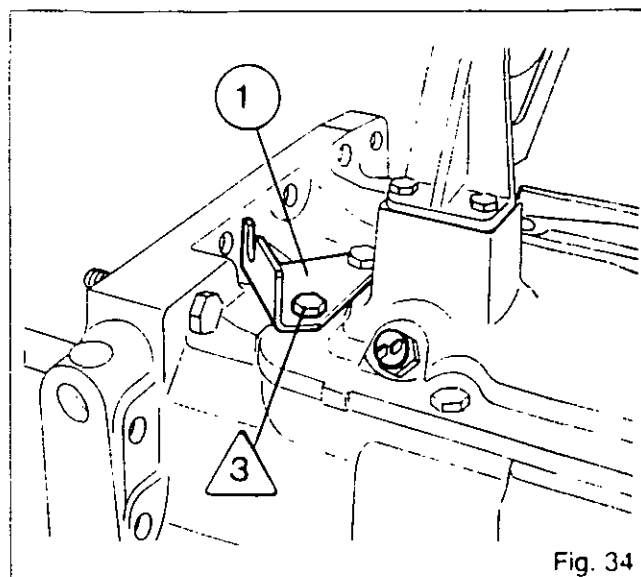

Fig. 34
**N.B.:** In the case of a gearbox fitted with a creeper gearbox, fit cable support (1) (Fig.34). To ensure the cover is correctly located, first tighten bolt /3\ (Fig.34). With the help of the levers, check by hand that the actuating fingers are correctly engaged in the selector forks.